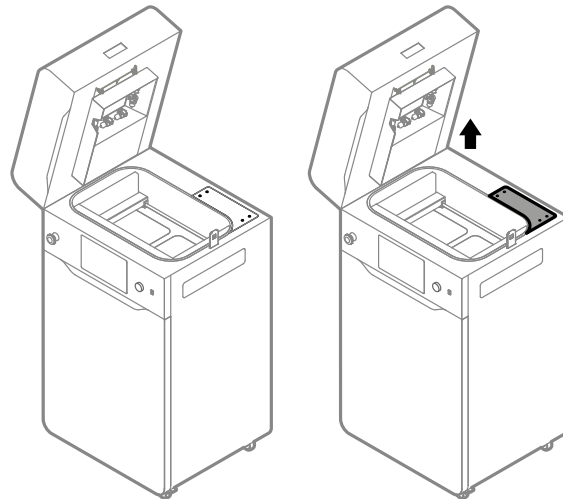

Fig. 13.79 Unscrewing and removing the access panel on the top side of the printer.
17. Using a 2 [mm] allen key, remove the four screws securing the access panel on the top side of the printer (fig. 13.79).